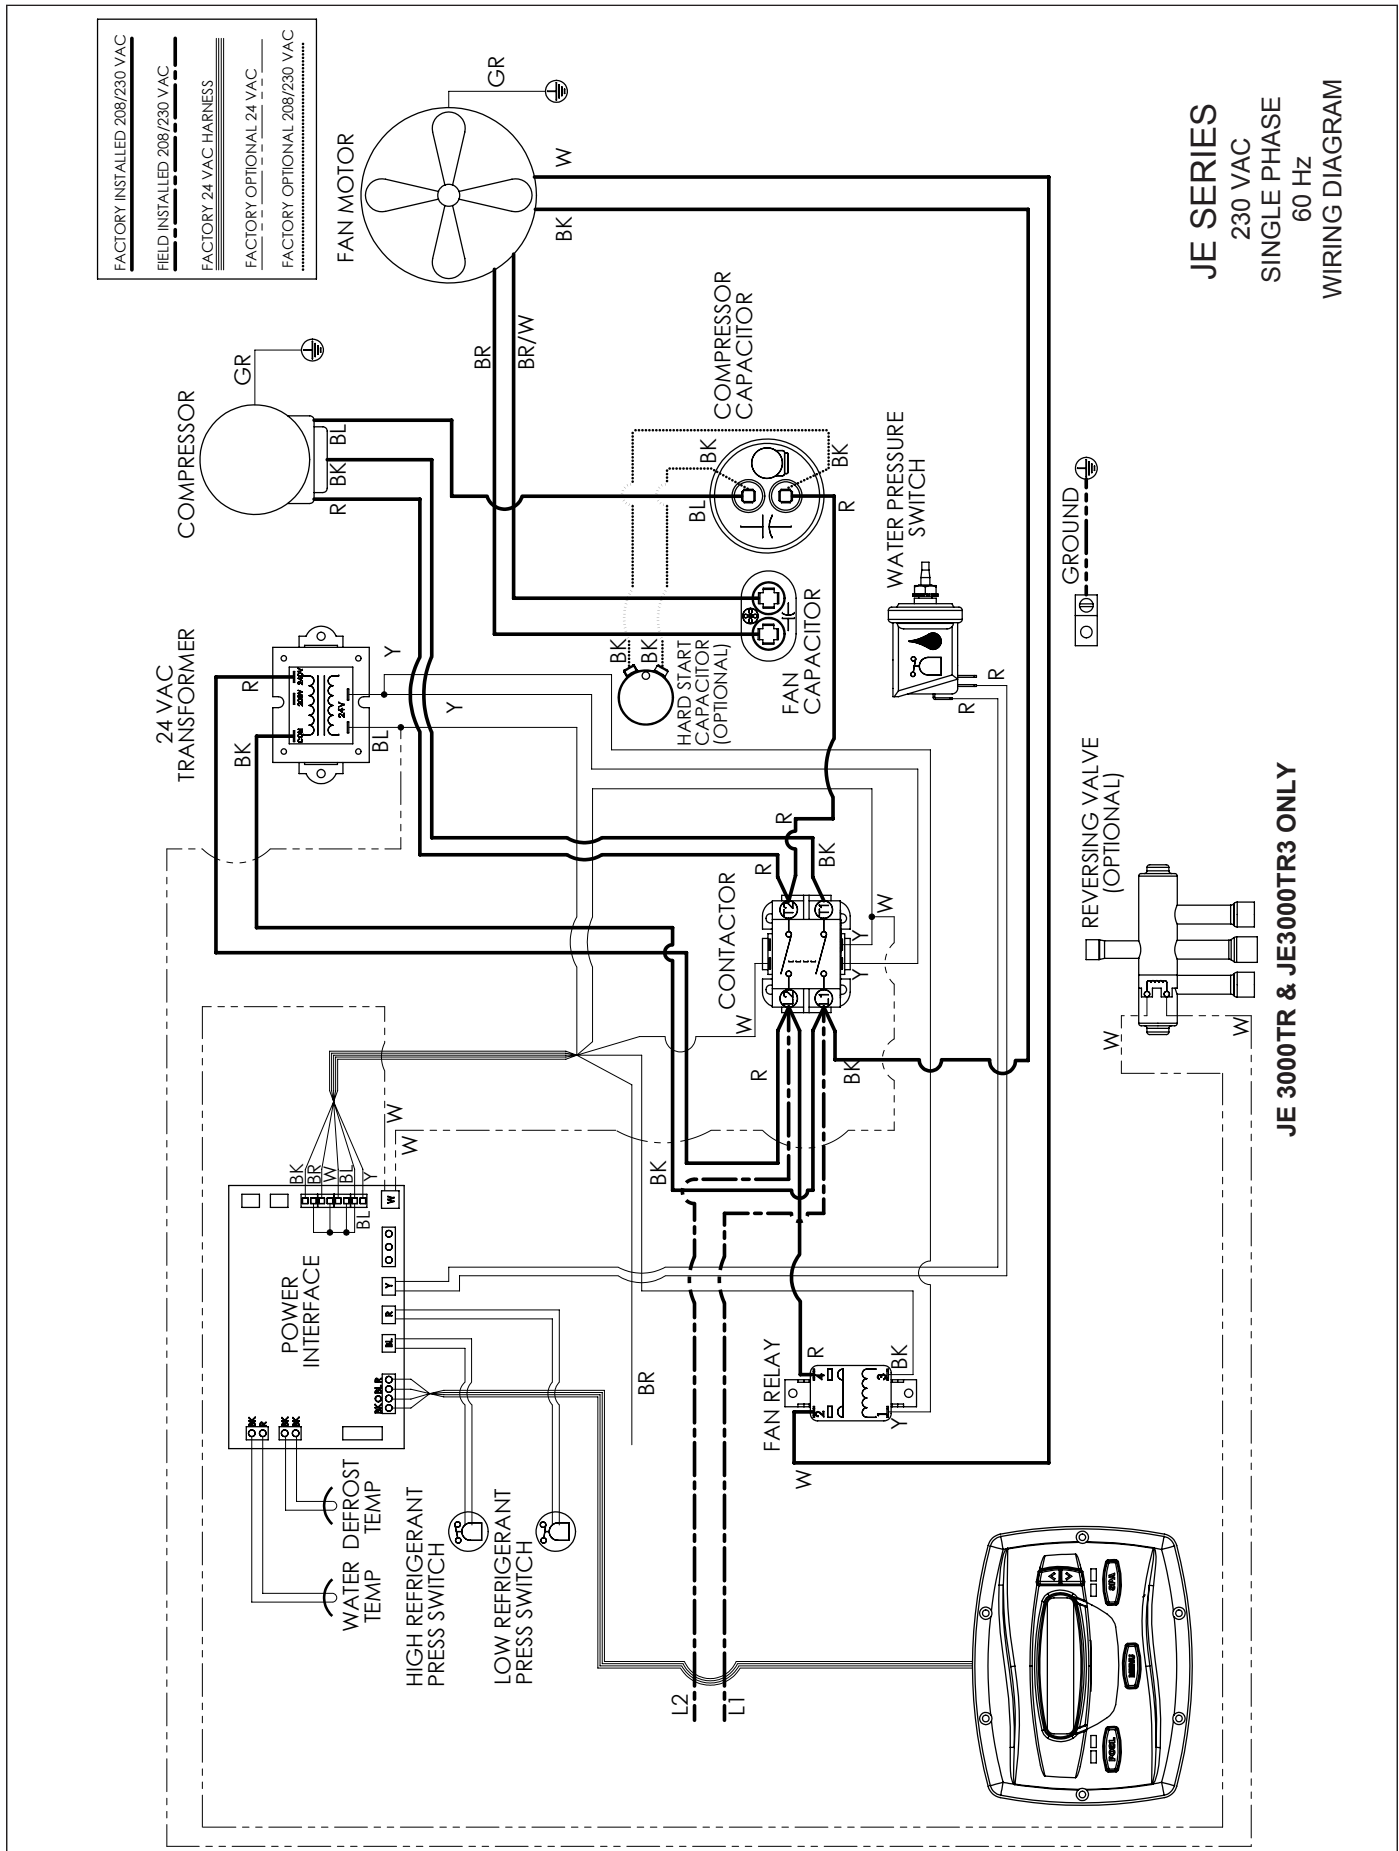
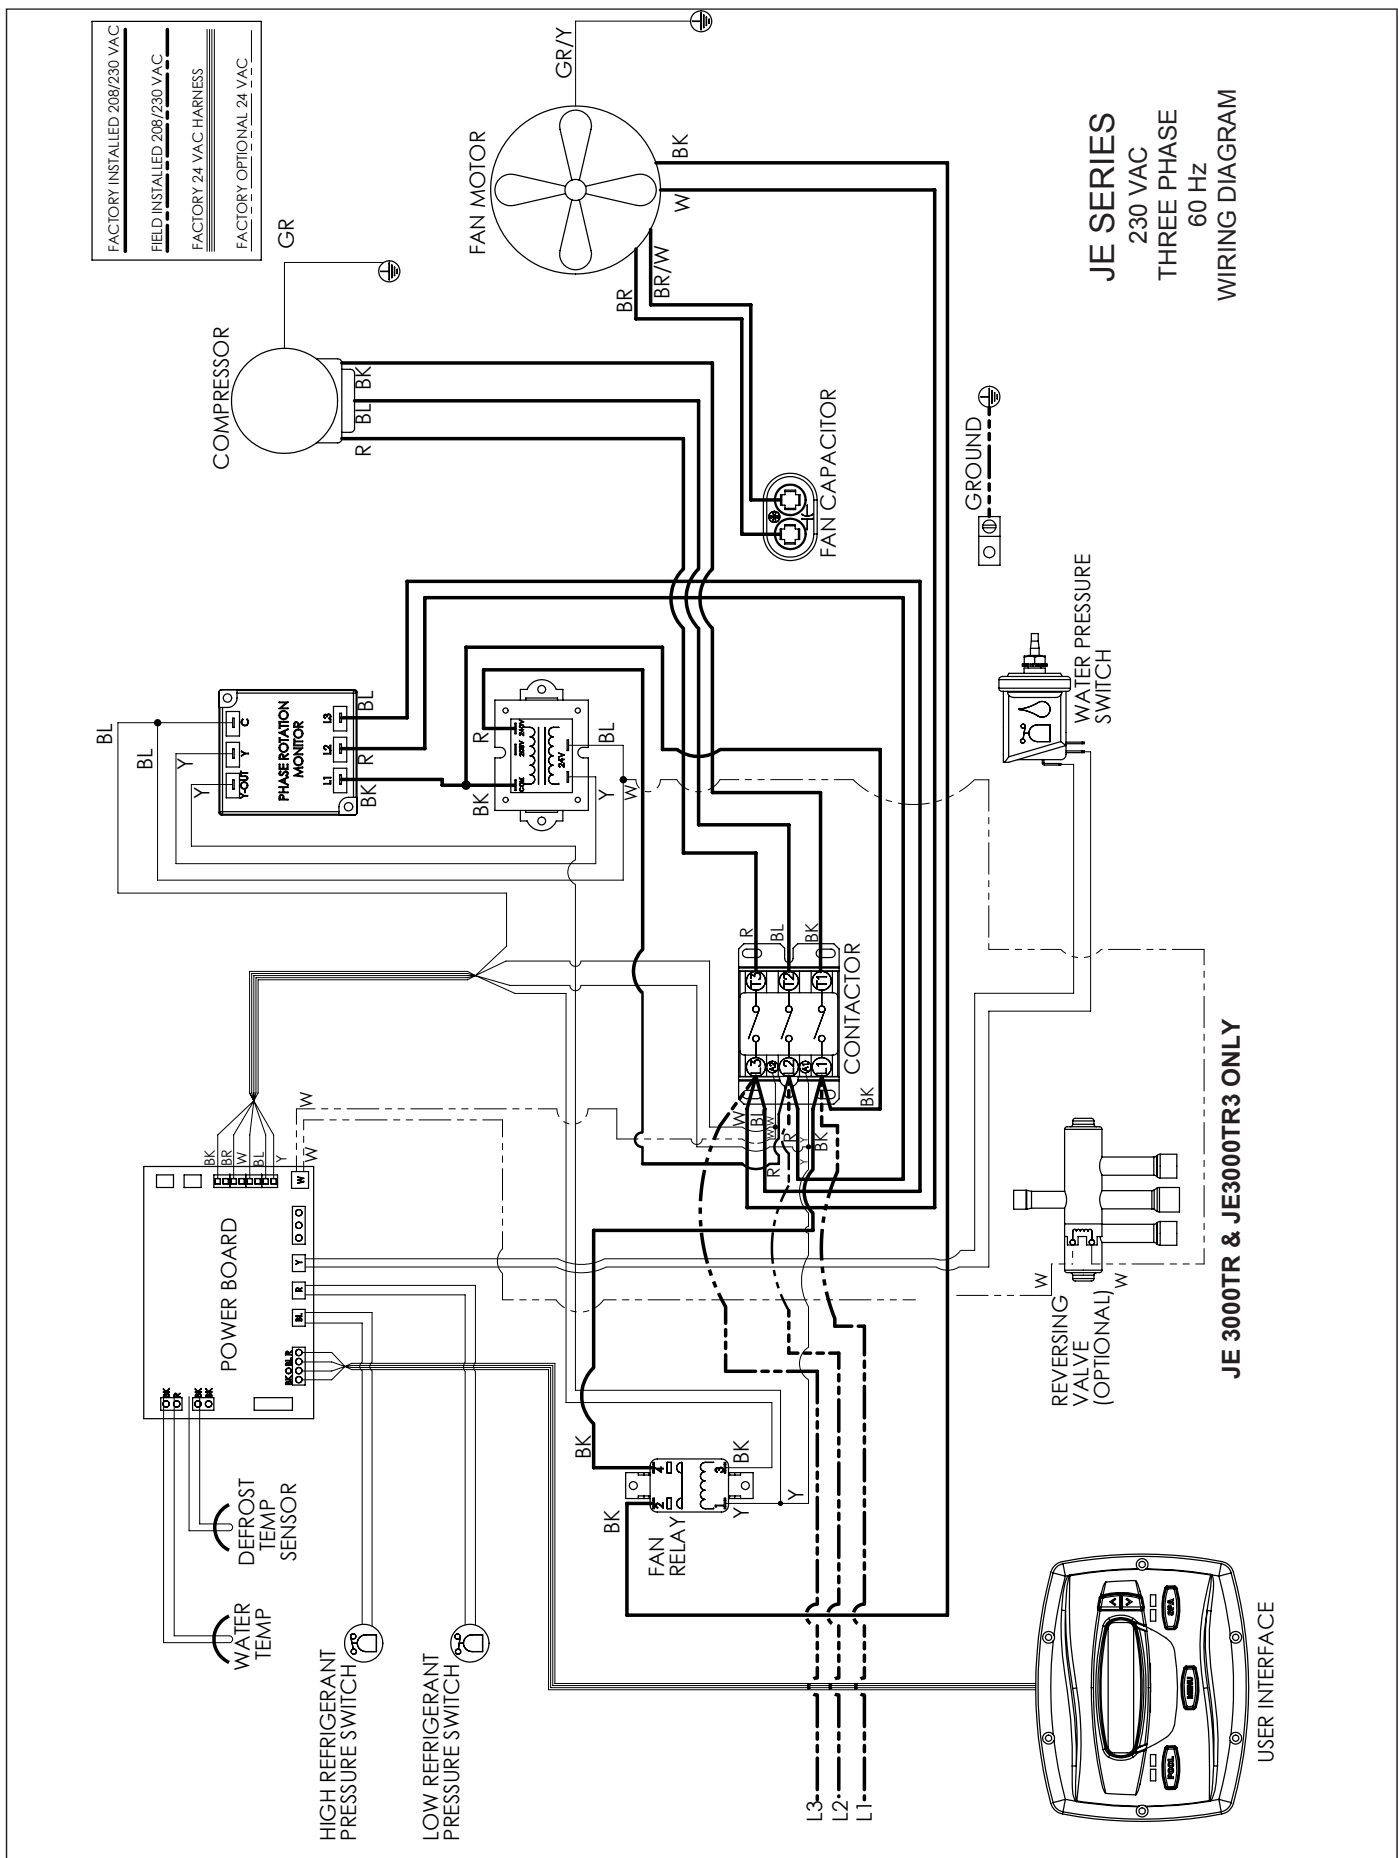

Figure 8. JE Single-Phase Electrical Supply Wiring Diagram
Figure 9. Jandy JE 3-Phase Electrical Supply Wiring Diagram
Wiring connections must be made exactly as shown in the wiring diagram found on the inside of the heat pump access compartment (see Figure 8 for single phase electrical wiring and Figure 9 for 3-phase electrical wiring). The heat pump must include a definite means of grounding and bonding. There is a bonding lug on the right side of the heat pump, where a bond wire must be attached.
5. Connect the wires to the terminals on the main contactor as shown in the wiring diagrams. Refer to Figures 8 and 9.